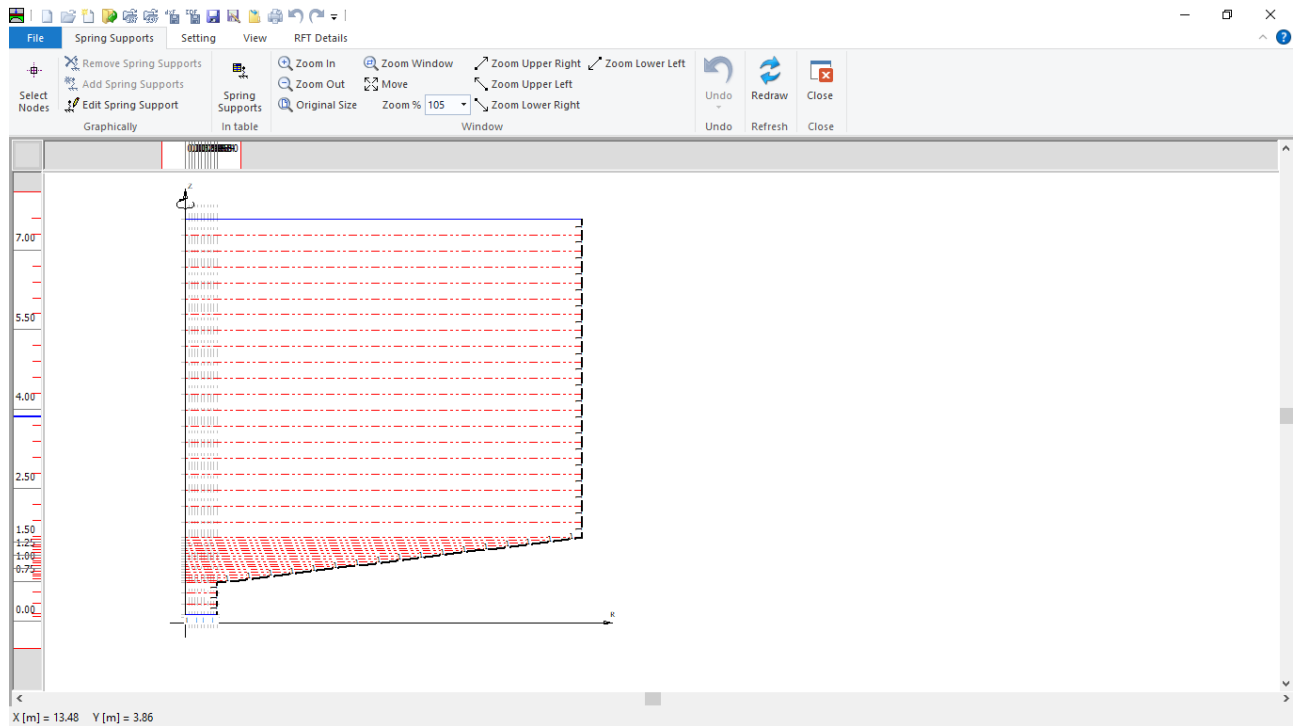
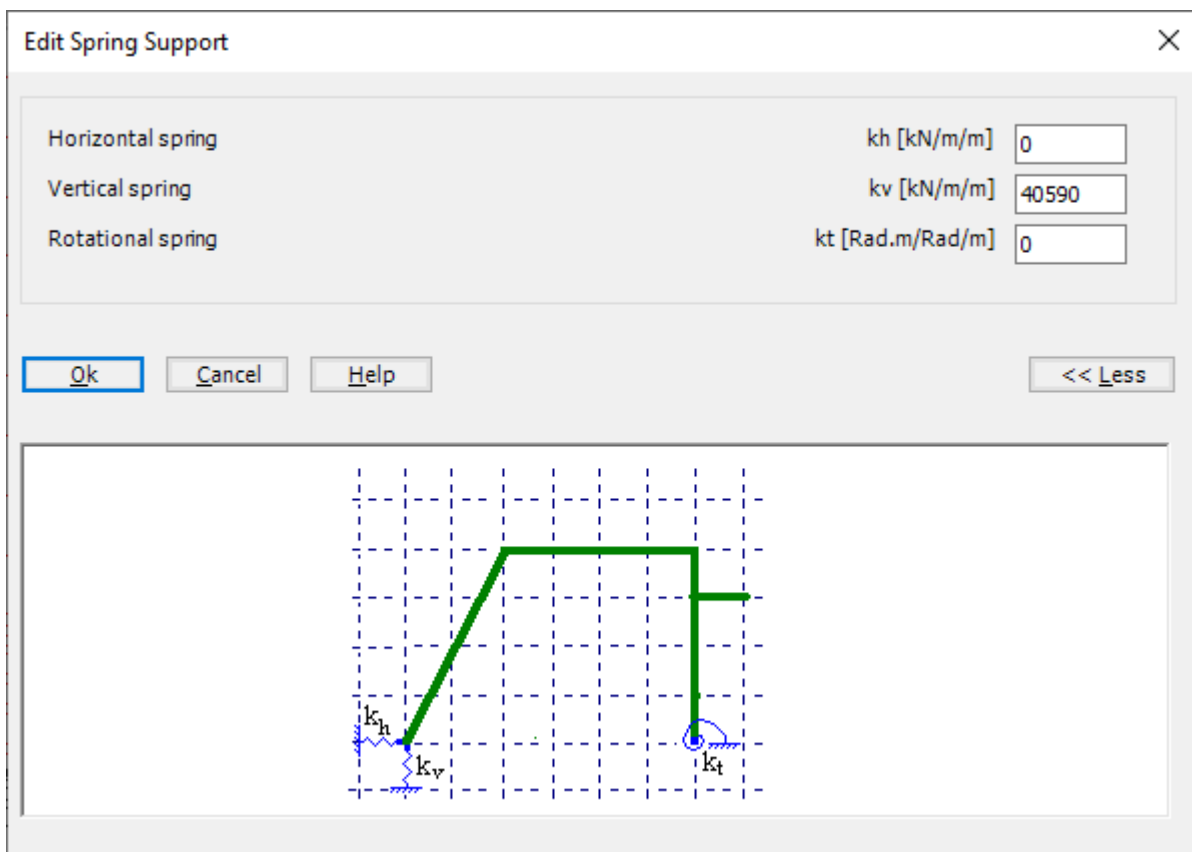

Figure 7.18 "Spring Supports" Window
Figure 7.20 "Edit Spring Support" dialog box
To define the Spring supports, choose "Spring Supports" command from "Data" Tab. The following window in Figure 7.18 appears.
- Choose "Select Nodes" command from "Graphically" menu in Figure 7.18. When "Select Nodes" command is chosen, the cursor will change from an arrow to a cross hair
- After selecting the nodes, choose "Add Spring Supports" command from "Graphically" menu (Figure 7.18). The "Edit Spring Support" dialog box in Figure 7.20 appears.